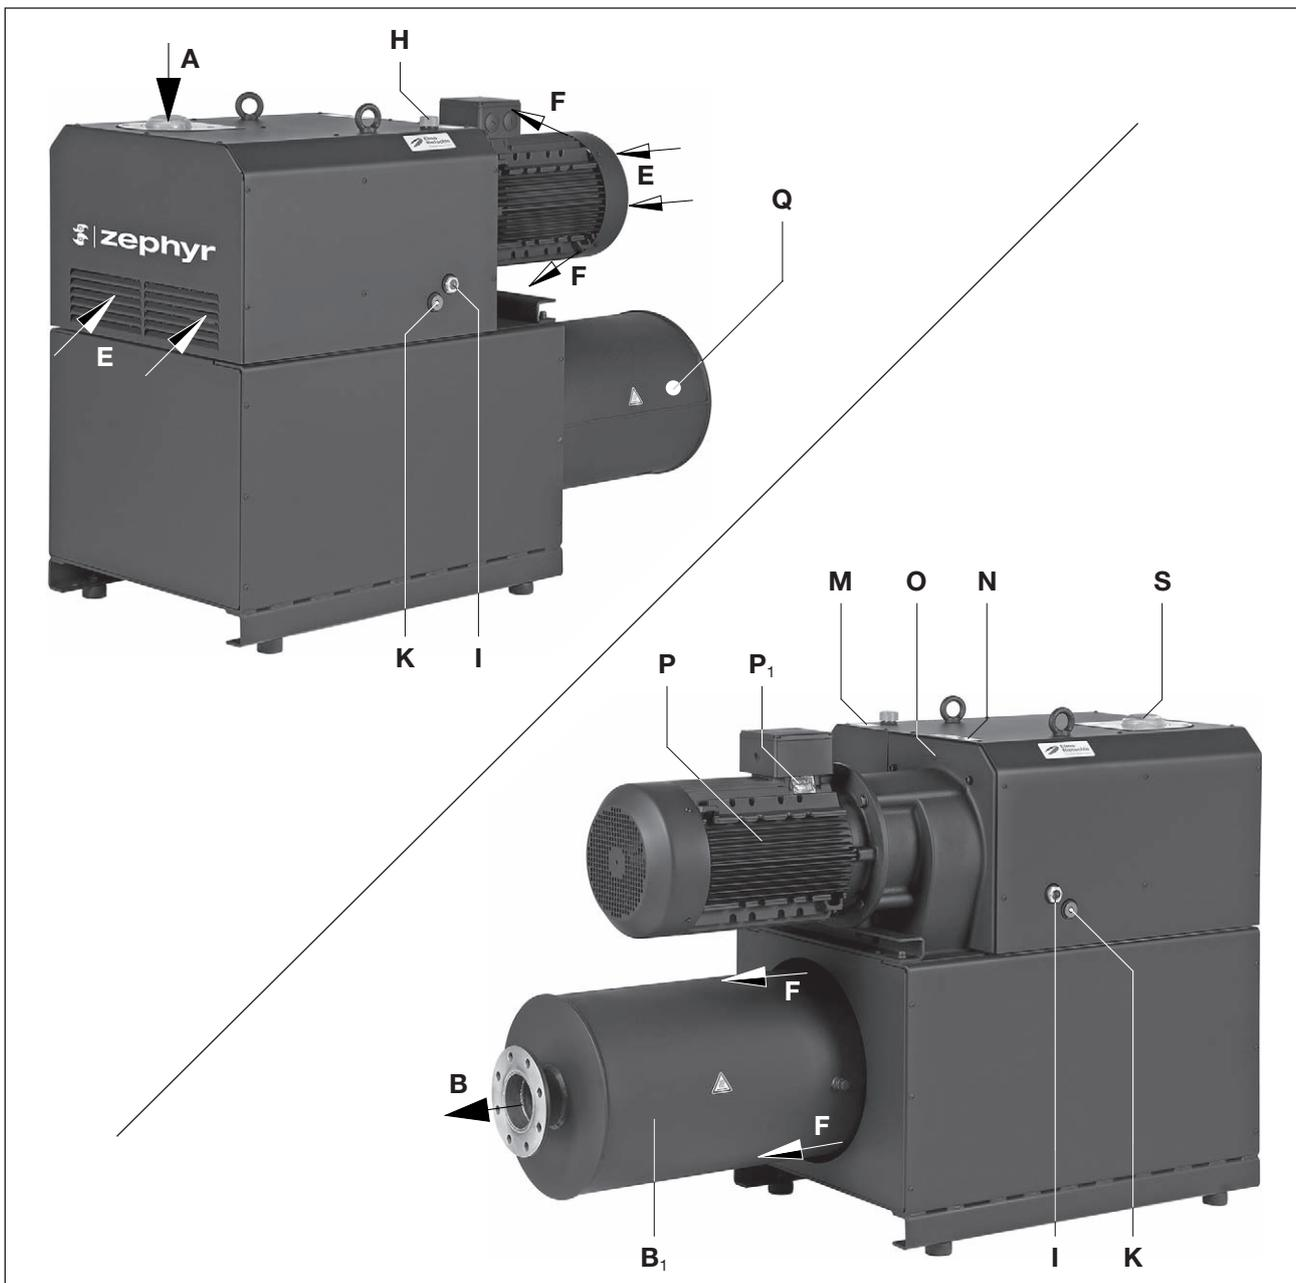

Fig. 2 Vacuum pump C-VLR 1000
The C-VLR 1000 model has a connection flange on the inlet side and an exhaust silencer on the pressure side (Fig. 2/B₁). The air sucked in is cleaned by a micro-filter (Fig. 2/S).
The gearbox and the compression chamber are separated from each other by special seals. The gearbox is sealed from the outside with shaft seals and O rings, the compressor chamber with piston rings. The VLR 1000 is enclosed in an insulating hood. In order to dissipate compression heat, the cooling air is sucked through between the machine and the hood using a drum fan that sucks in the fresh cooling air (Fig. 2/E) and discharges the heated air out of the cooling air outlet (Fig. 2/F).
The oil filling point (Fig. 2/H), oil sight glass (Fig. 2/I) and the oil outlets (Fig. 2/K) must be easily accessible. The cooling air inlets (Fig. 2/E) and the cooling air outlets (Fig. 2/F) must be at least 30 cm away from adjacent walls. Cooling air coming out must not be sucked in again. For maintenance work there must be a minimum of 40 cm in front of the mesh filter (Fig. 2/S).
- a) Remove the adhesive sheets from the vacuum connection (Fig. 2/A) and insert the mesh filter (Fig. 2/S) with the curved side up.
- c) The extracted air can be discharged through the exhaust silencer (Fig. 2/B) or conducted away via the flange and a pipe.
- a) Fill the lubricating oil (for suitable types see “Maintenance”) for the gear wheels and oil filling point (Fig. 2/H) up to the middle of the sight glasses (Fig. 2/I).
- a) The motor’s electrical data is given on the data plate (Fig. 2/N) or on the motor data plate (Fig. 2/P₁). The motors comply with DIN EN 60034 and are in protection class IP55 and insulation class F. The appropriate connection diagram is located in the motor’s terminal box (not for the plug connection version). The motor data must be compared with the data of the existing mains network (current type, voltage, network frequency, permitted current value).
When the machine is at operating temperature the surface temperatures on the components (Fig. 2/ Q ... 4/Q) may go above 70°C. You must avoid touching the hot surfaces (marked with warning plates).
- ▷ The intended direction of rotation of the drive shaft is shown by the rotary direction arrow (Fig. 2/O) on the motor flange.